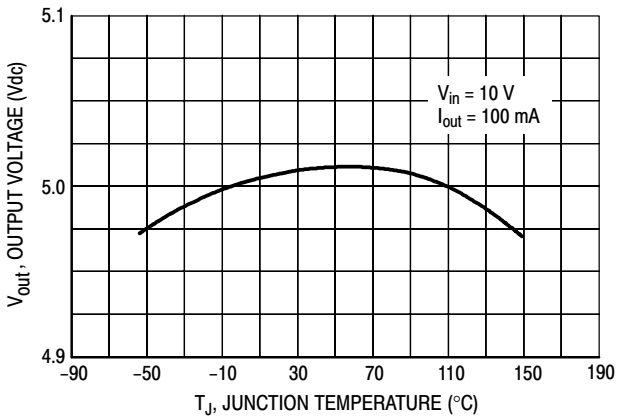
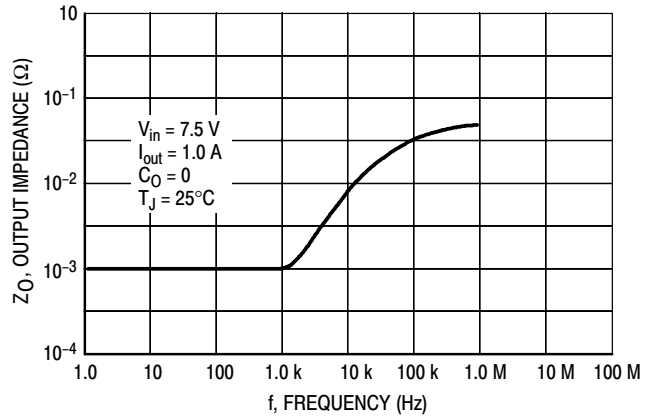

**Figure 1. Line and Thermal Regulation**
**Figure 2. Load and Thermal Regulation**
Figure 1 shows the line and thermal regulation response of a typical LM323A to a 20 W input pulse. The variation of the output voltage due to line regulation is labeled ① and the thermal regulation component is labeled ②. Figure 2 shows the load and thermal regulation response of a typical LM323A to a 20 W load pulse. The output voltage variation due to load regulation is labeled ① and the thermal regulation component is labeled ②.